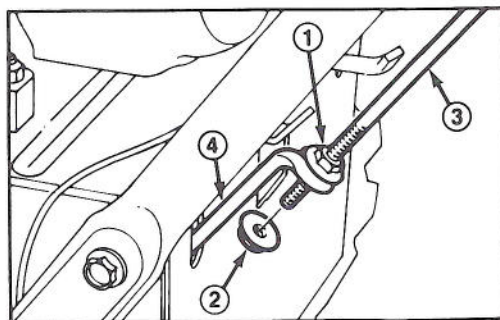
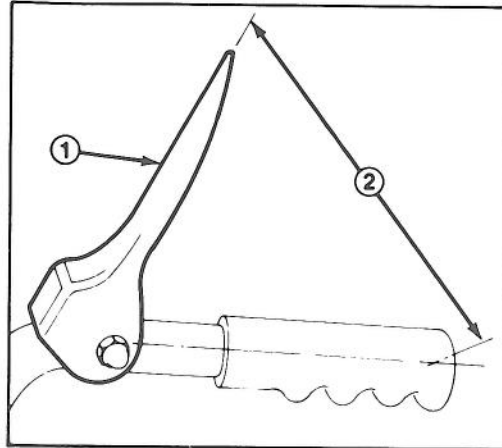

Figure 26
Figure 27
1. Loosen locknuts securing upper traction control rod to lower traction control rod (Fig. 26).
2. Adjust upper locknut (Fig. 26) until there is approximately 5 inches (12.7cm) between the center of the handle and the tip of the traction control lever (Fig. 27).